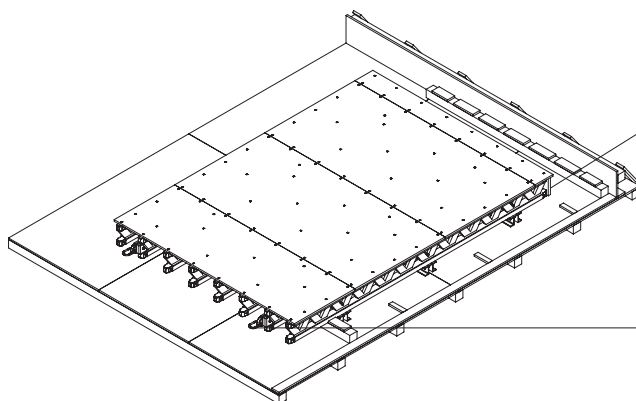

Fig. A1.08
8. If necessary, mount Crane Splices 24 at the top and rubbing boards at the bottom. (Fig. A1.08)